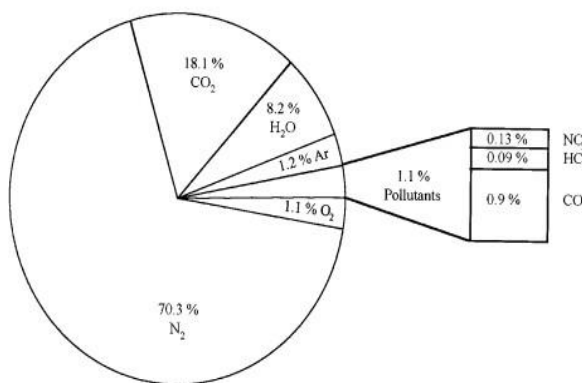
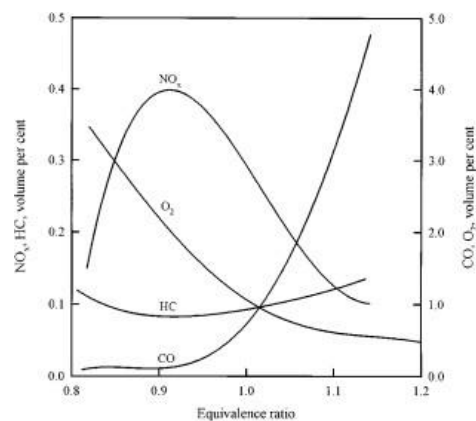

Figure 1 Mean exhaust composition without catalytic converter in ECE test (medium-size vehicle)
Figure 2 Spark ignition engine emissions for different fuel/air ratios
The enormous increase in environmental pollution caused by combustion processes makes it essential that solutions are found for their reduction. Soon after World War II it was recognized that a major portion of this problem is caused by the exhaust emission from the internal-combustion engines (Taylor, 1985). The causes and the control of this problem have been the objective of an enormous amount of research and development, which is still continuing. The reactions that occur in the engine combustion process not only produce substances such as  $\text{CO}_2$ ,  $\text{H}_2\text{O}$  and  $\text{H}_2$ , but also various pollutants which are found in the engine exhaust. The three main pollutants which are subject to exhaust emission legislation are carbon monoxide (CO), unburned hydrocarbons (HC) and nitrogen oxides ( $\text{NO}_x$ ). These emissions are worse from the spark-ignition engine than from the compression ignition engine. Other important pollutants contained in exhaust emissions are aldehydes (H—C—O compounds), lead components produced by use of leaded fuels, Sulphur dioxide ( $\text{SO}_2$ ), and particulates (including soot), especially with diesel engines. A typical exhaust composition (ECE test) is shown in Figure 1. Emissions of pollutants vary between different engines and are dependent on such variables as ignition timing, load, speed, and in particular, fuel/air ratio. Figure 2 (Stone, 1991) shows typical variations of pollutant concentrations with the fuel/air ratio for a spark-ignition engine.
**NOx:** Figure 2 shows that the nitrogen oxides reach a maximum at a slight excess of air. Generation of these components is enhanced by high, local peak temperatures and a corresponding excess of air. The high-temperatures encourage splitting of N2 and O2 into their atomic constituents. Excess air ensures that sufficient oxygen is present. All engine-related parameters (e.g. load, air/fuel ratio, ignition angle, compression ratio) influence NOx emissions. NO emissions account for approx. 90—98% of all NOx emissions during engine operation.